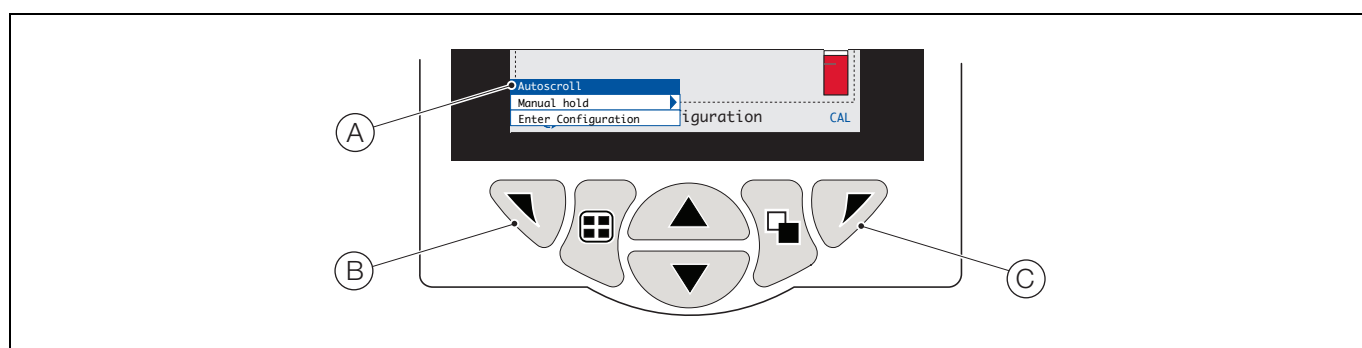

Fig. 6.2 Operator menus
The transmitter has 4 modes of operation – all modes are accessed from the *Operator* menu – see Fig. 6.2.
Referring to Fig. 6.2, *Operator* menus (A) are accessed from any *Operating*, *View* or *Log* page by pressing the ▾ key (B).
When multiple wet-sections are connected, and if *Autoscroll* is selected from the *Operator Menu* (see Fig. 6.2, page 30), the display scrolls through each available *Operator Page* consecutively.